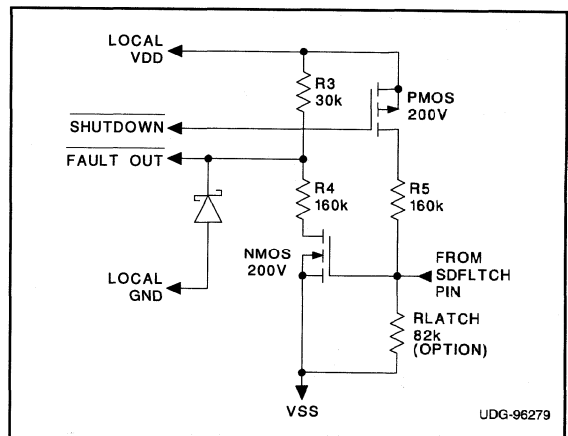

Figure 6. Possible Level Shift Circuitry to Interface to the UCC3921, showing component values selected for a typical telecom application.
Some type of circuit is needed to interface with the UCC3921 via SDFLTCH, such as opto-couplers or level shift circuitry. Figure 6 depicts one implementation of level shift circuitry that could be used, showing component values selected for a typical -48V telecommunication application. There are three communication conditions which could occur; two of which are Hot Swap Power Manager (HSPM) state output indications, and the third being an External Shutdown.
- 1) When open, and under a non-fault condition, SDFLTCH is pulled to a low state. In Figure 6, the N-channel level shift transistor is off, and the FAULT OUT signal is pulled to LOCAL VDD through R3. This indicates that the HSPM is not faulted.
- 2) When a fault is detected by the fault timer or under-voltage lockout, this pin will drive to a high state, indicating that the external power FET is off. In Figure 6, the N-channel level shift transistor will conduct, and the FAULT OUT signal will be pulled to a Schottky Diode voltage drop below LOCAL GND. This indi-
If a $5k < R_{LATCH} < 250k\Omega$ resistor is tied between SDFLTCH & VSS, as optionally shown in Figure 6, then the latched operating mode (described earlier) will be invoked upon the occurrence of a fault.